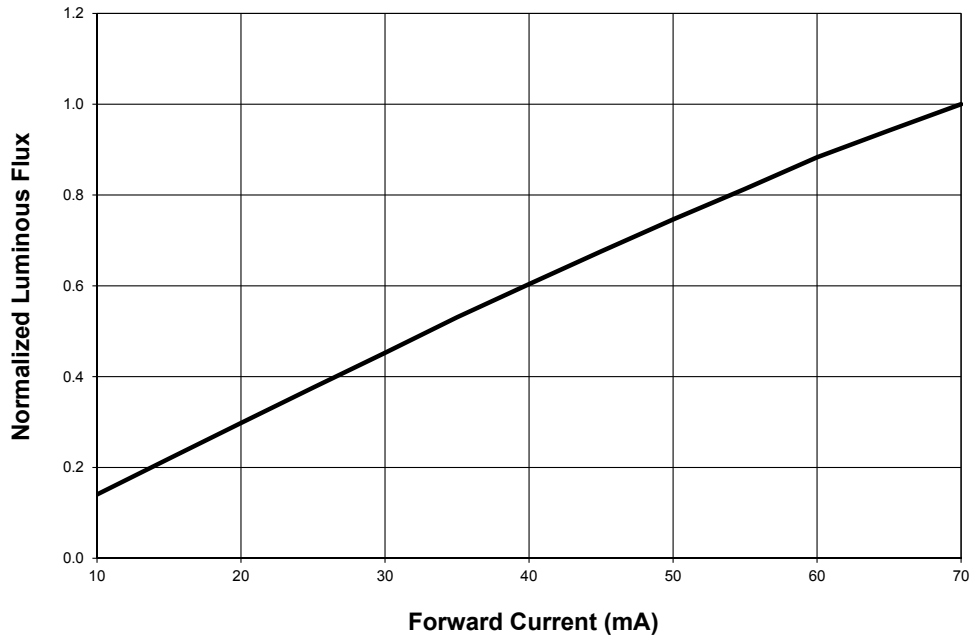

Figure 4. Typical luminous flux vs. forward current for Superflux.
- Derate as shown in Figures 4.